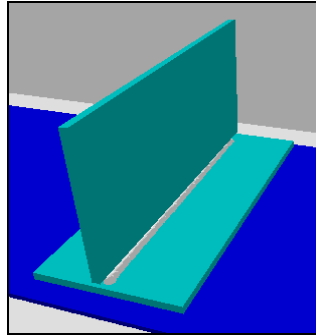

Figure 7-2: T-joint weld
- **T-joint weld:** A T-joint weld is shown in Figure 7-2.